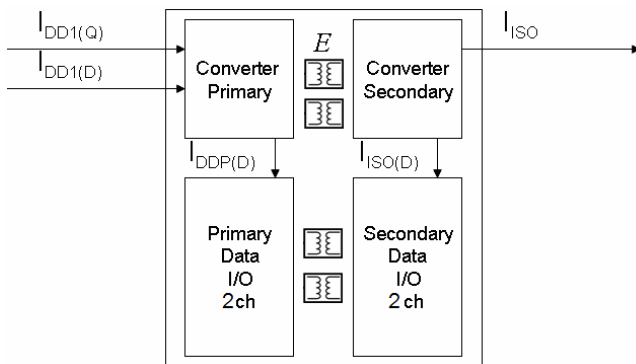

Figure 21 Power consumption within the ADuM520x
The VDD1 power supply input provides power to the iCoupler data channels as well as the power converter. For this reason, the quiescent currents drawn by the data converter and the primary and secondary I/O channels cannot be determined separately. All of these quiescent power demands have been combined into the IDD1(Q) current as shown in Figure 21. The total IDD1 supply current will be the sum of the quiescent operating current, dynamic current IDD1(D) demanded by the I/O channels, and any external IISO load.